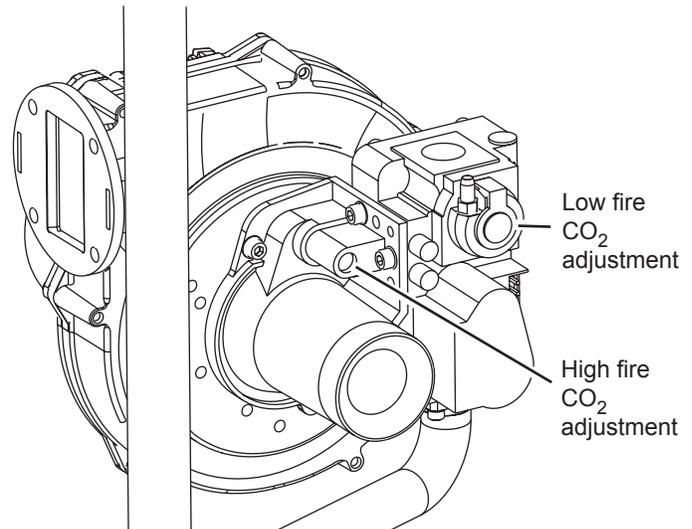

Fig. C3-1 - High- and low-fire adjustments on gas valve - NT 85 through NT 285
The CO₂ readings should be between the values shown in Table C3-1. If the CO₂ is not within the correct range, adjust the high fire setting. See Fig. C3-1 to locate the high fire adjuster screw. Slowly make adjustments (1/16 of a turn at a time) until the CO₂ is within the range shown in the table. For the high fire adjustment, turning the screw counter-clockwise (CCW) opens the adjustment and makes the mixture richer.
Again, the CO₂ readings should be between the values shown in Table C3-1. See Fig. C3-1 to locate the low fire adjuster screw for your unit. For the low fire adjustment, turning the screw clockwise (CW) opens the adjustment and makes the mixture richer.